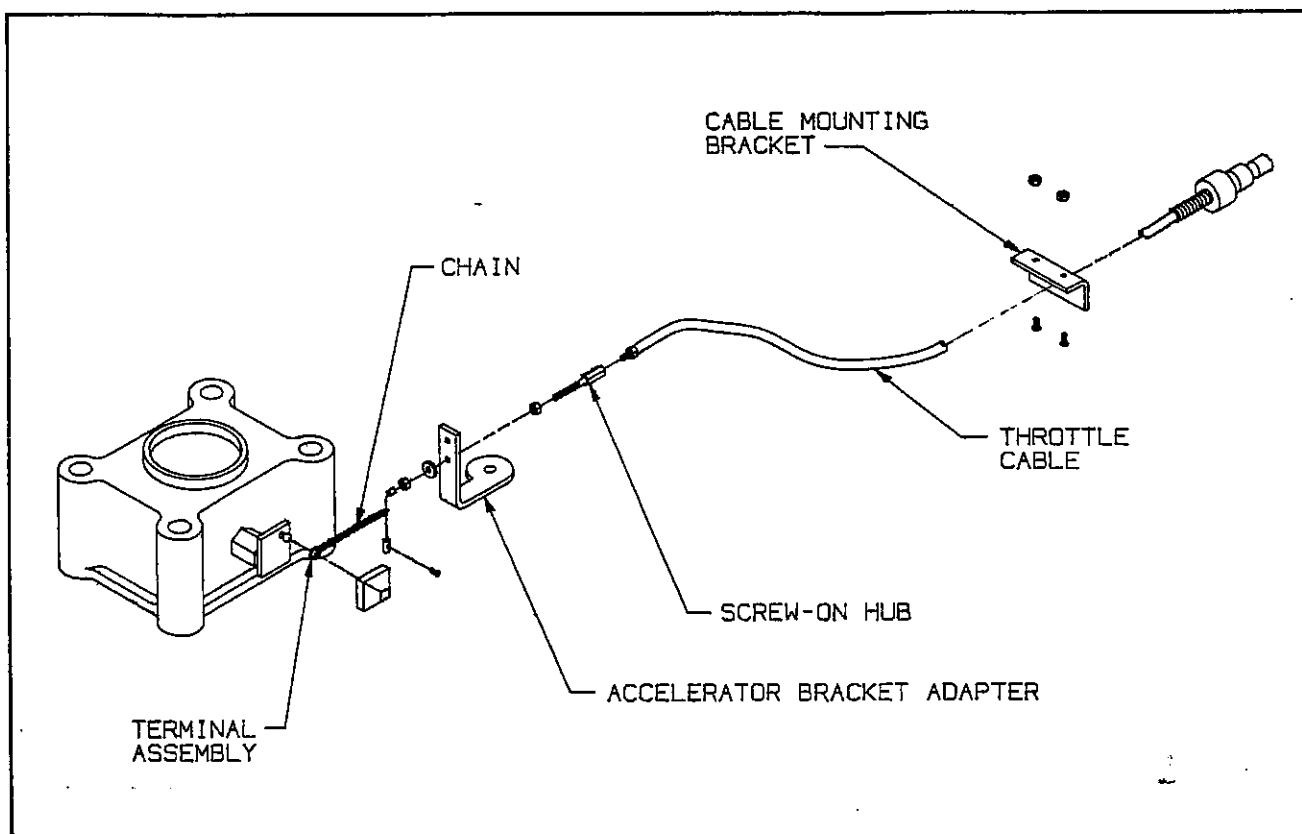

Figure 4-14 Chevy Cable Inst. to Carburetor & Bracket
**4-13.2** Drill a 13/32" diameter hole in the accelerator anchor bracket (mounted to the intake manifold) just below the existing accelerator pedal cable. (See Figure 4-14)